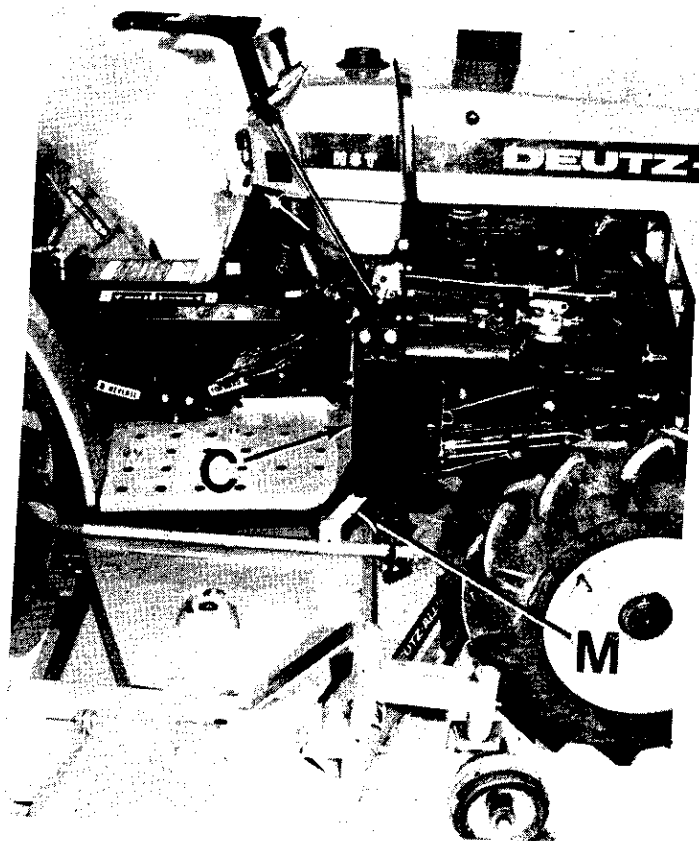

FIG. 12
3. Install end of lift link (M) onto pin of lift anchor/up stop (C) and secure with hair cotter pin. (See Fig. 12) Install other lift link (M) to opposite side of tractor.